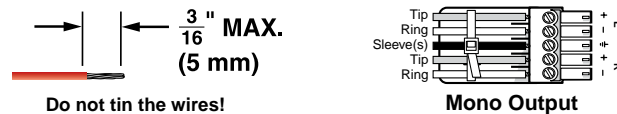

Figure 2-8 — Captive screw connector wiring for audio output
NOTE See figure 2-6 to identify the tip, ring, and sleeve parts of the connector when you are making connections for the switcher from existing audio cables. A mono audio connector consists of a tip and sleeve. A stereo audio connector consists of a tip, ring and sleeve. The ring, tip, and sleeve wires are also shown on the captive screw audio connector diagrams, figure 2-5 and figure 2-8.
- ⑧ **Mono Audio (local audio) outputs** — Connect audio devices, such as an audio amplifier or powered speakers, to these four or eight 3.5 mm, 5-pole captive screw connectors. These connectors output the selected unamplified, mono line level audio. See figure 2-8 to wire an output connector. Use the supplied tie-wrap to strap the audio cable to the extended tail of the connector.